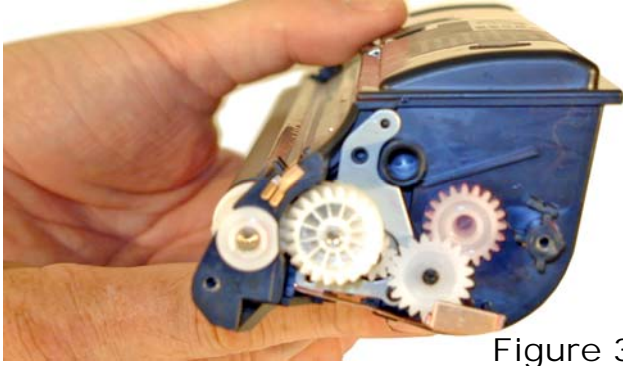

Figure 32
25) Install the three gears smallest to largest in that order. See **Figure 32**